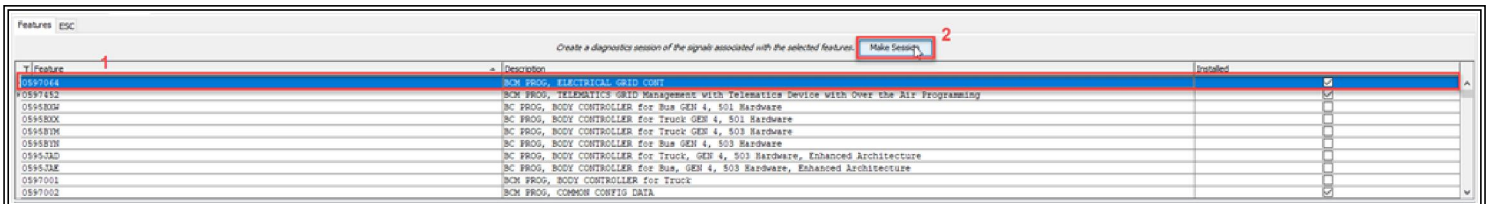

Figure 1: Create a session
2. Create a session with feature 597064 BCM PROG, ELECTRICAL GRID CONT by selecting feature 597064 (Figure 1, Item 1) and then selecting the "Make Session" button (Figure 1, Item 2).